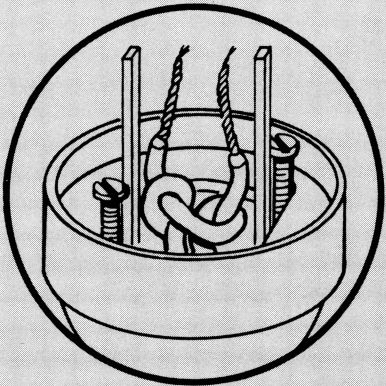

Fig. 7
7. Pull knot down firmly in the plug. (Fig. 7).